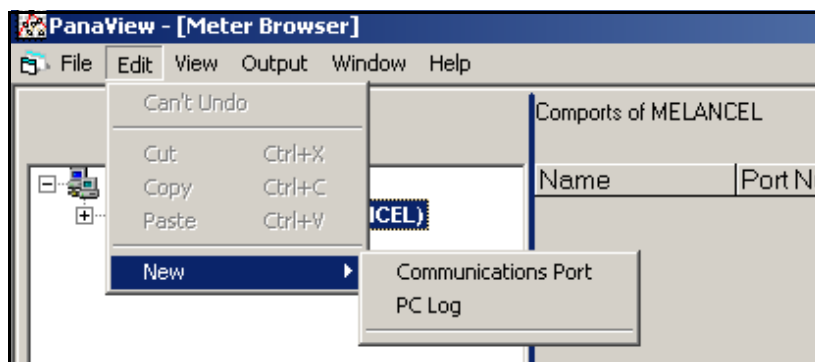

Figure 77: Edit Menu
3. Click on the “*New*” menu option to open a submenu opens with two choices (see *Figure 77* below).